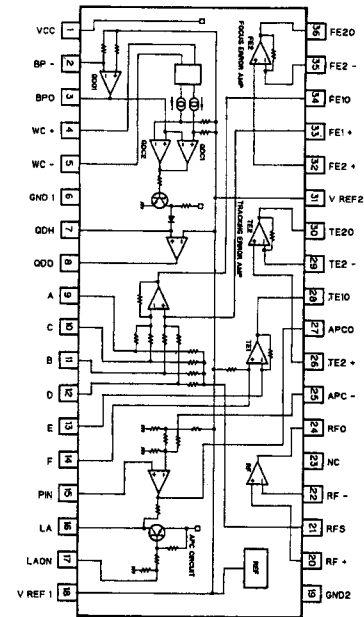

Fig. 43 Block diagram
The present system, which is of single power (+5 V) type, has 2.5 volts available for both RF Amplifier Reference Voltage V_{ref} and other signal circuit reference voltage REFOUT. Voltages referred to below are to be expressed in Unit [REFOUT]. (A voltage based on a reference value of 0 (V) is to be expressed in Unit [V].) The IC is a 36-pin flat package, which has an internal configuration as shown in Fig. 43.